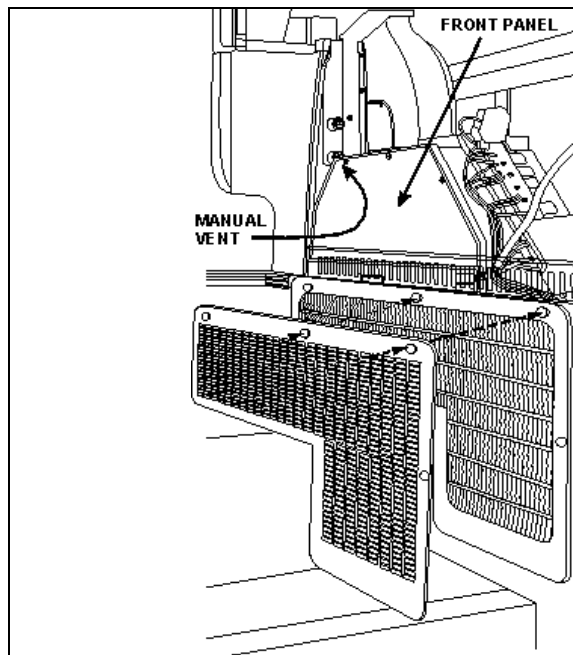

FIGURE 38: DRIVER'S HVAC UNIT
4. From inside of vehicle, remove the two finishing panels in front of unit. Remove the three screws fixing the unit front panel. Open the manual vent located inside the HVAC unit, on the driver's side (Fig. 38) to ensure an efficient draining.
Whenever the heating system has been drained and refilled, or the system has run low on coolant and coolant has been added, it is necessary to bleed air from heating system. Locate the manual vent illustrated in Figure 38, and open momentarily until no air escapes from the line.